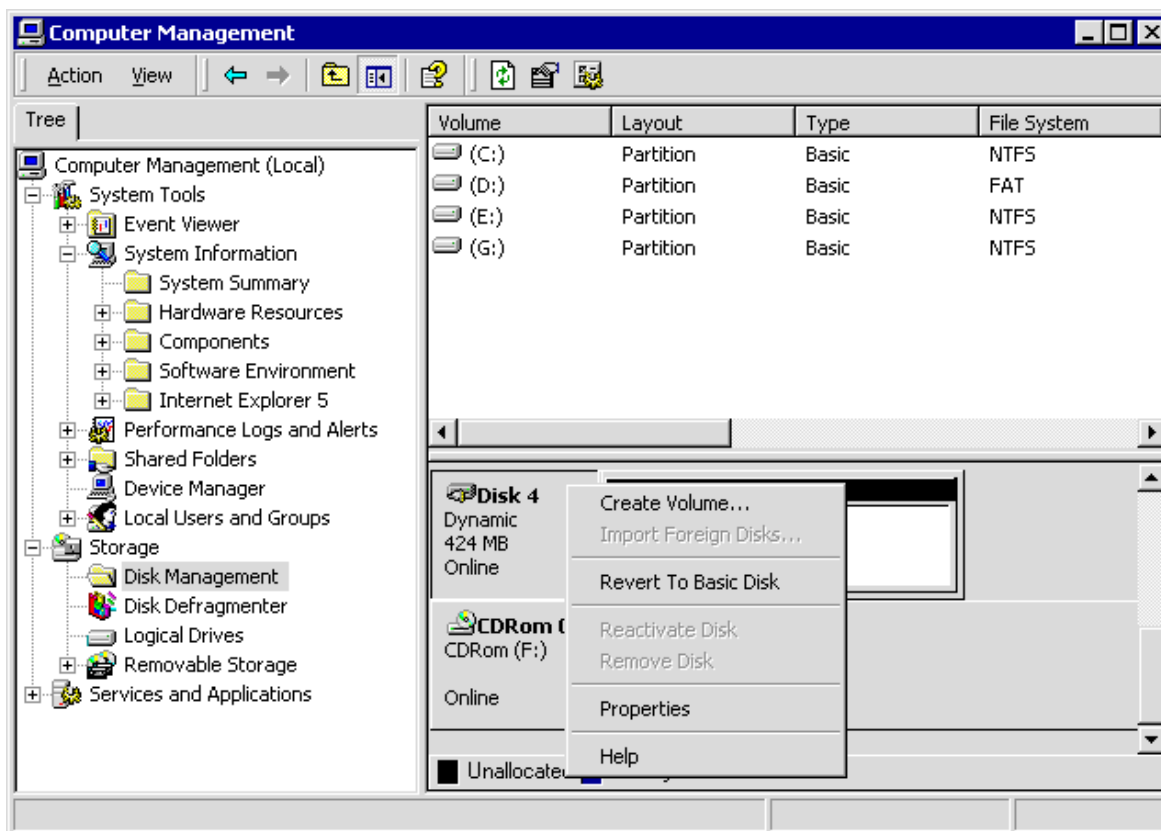

Figure 25. Changing a shared logical drive to Basic Disk
- 1) With the right-mouse button, click the Disk icon at the bottom of the Disk Management window (see Figure 25 on page 95).